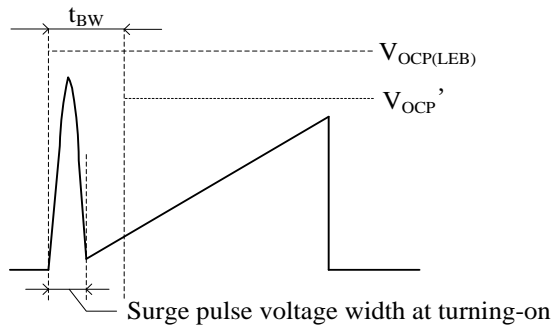
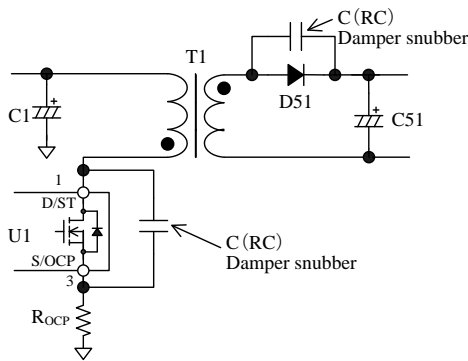

Figure 10-15. S/OCP Pin Voltage
Figure 10-16. Damper Snubber
During Leading Edge Blanking Time, the OCP threshold voltage becomes $V_{OCP(LEB)} = 1.69$ V which is higher than the normal OCP threshold voltage as shown in Figure 10-15. Changing to this threshold voltage prevents the IC from responding to the surge voltage in turning-on the power MOSFET. This function operates as protection at the condition such as output windings shorted or unusual withstand voltage of secondary-side rectifier diodes.
When the power MOSFET turns on, the surge voltage width of the S/OCP pin should be less than t_{BW} , as shown in Figure 10-15. In order to prevent surge voltage, pay extra attention to R_{OCP} trace layout (see Section 11.2). In addition, if a C (RC) damper snubber of Figure 10-16 is used, reduce the capacitor value of damper snubber.